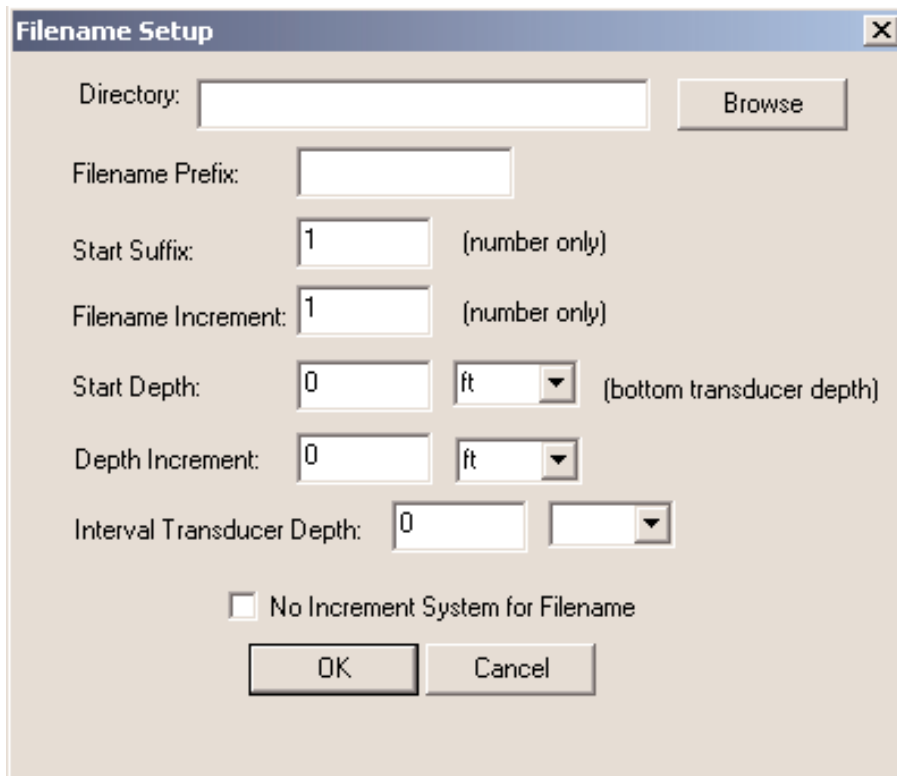

Figure 5: Filename Setup Parameters
- Once the parameters and channels are set to the appropriate values, the filenames must be established for the testing. This is done by clicking on FILE/ FILENAME SETUP, see Figure 5. After selecting "Setup Filename" from the "File" menu, the following input screen will appear.